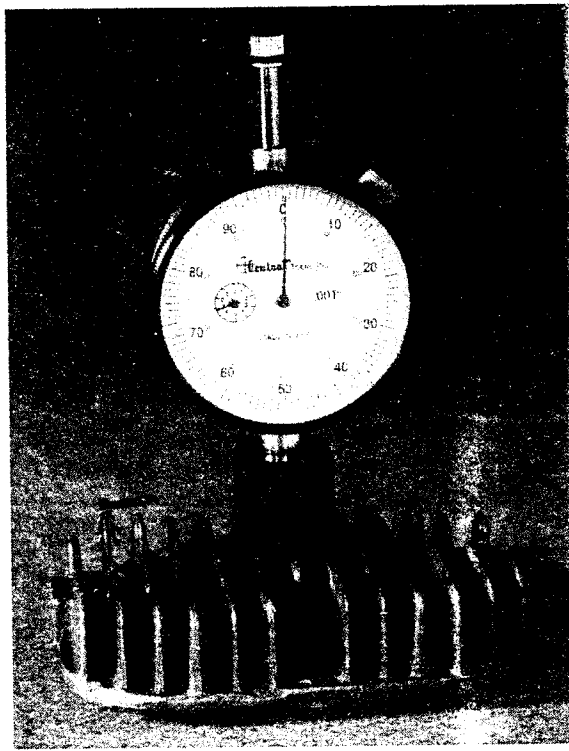

FIGURE 1
2. Clamp indicator into adaptor and then screw assembly into spark plug hole, as in Figure 1. Do not force. If spark plug threads are tight, indicator may become damaged.